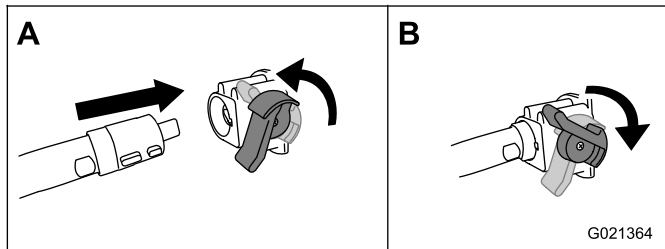

Figure 18
2. Rotate the coupling lever counterclockwise, and insert the shaft into the coupling (Figure 18 A).
3. When the shaft is fully inserted, rotate the coupling lever clockwise, back to the original position (Figure 18 B).